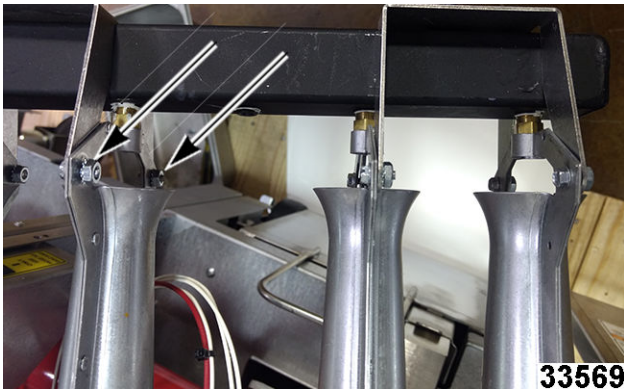

Fig. 29
14. Tighten top burner bracket mounting nuts Fig. 29.